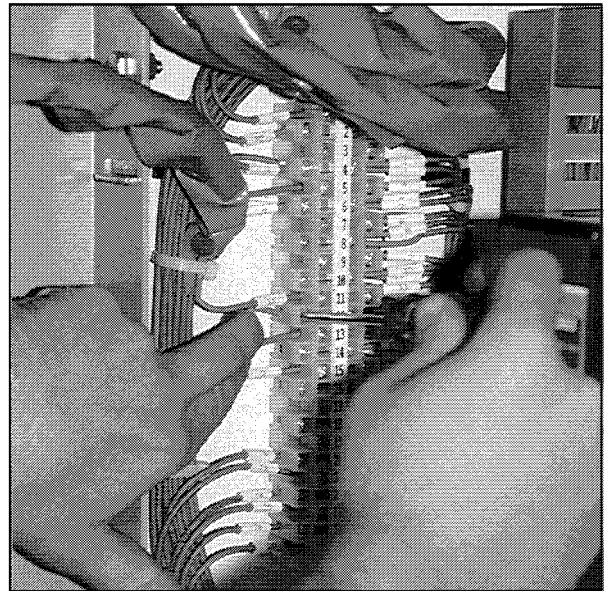

Fig. 35 Removing Current Transformer Shorting Jumpers
- Shorting jumpers (Fig. 35) for current transformer secondary windings must be removed once the secondary circuit is completed. A circuit transformer must not be operated with its secondary windings open.